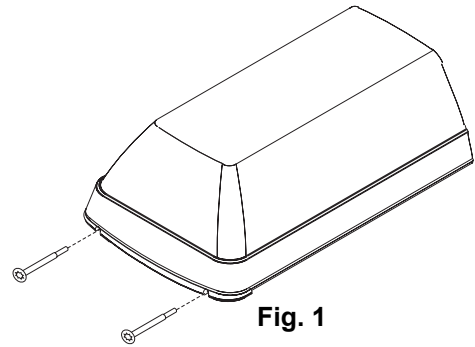

Fig. 1
1. Remove the two Torx head screws that hold the end cap onto the base (Fig. 1) and remove the end cap by sliding it out the side of the bar.